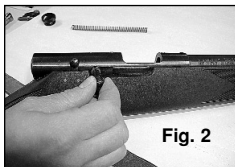

Fig. 2
5. Squeeze trigger and slide bolt handle back to the rearmost position in the receiver. see fig. 2